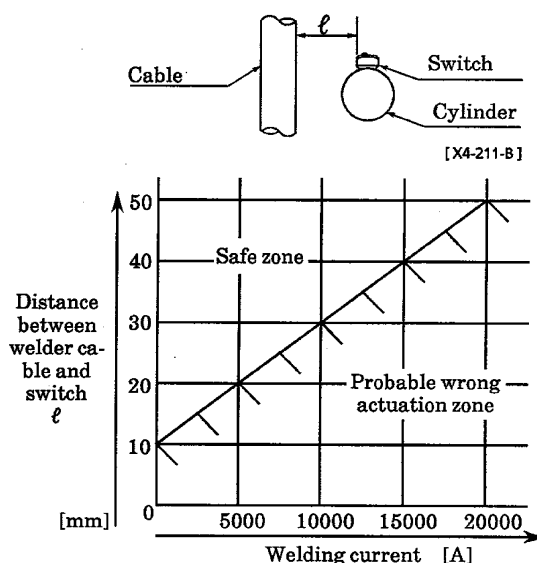
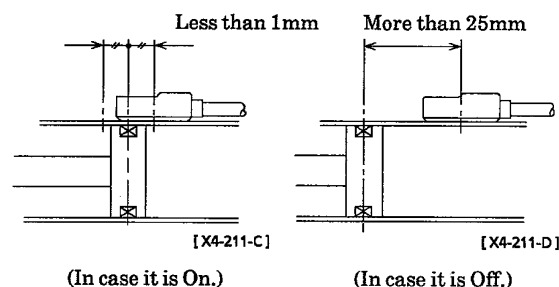

Fig. 19 Spot welding current - erroneous operation distance characteristic
Fig. 20 Relative positioning between Switch and Piston magnet
It is, therefore, advisable to place Cable and Switch apart more distance than shown in the Graph, right. (Fig. 19)
This graph (Fig. 19) is, however, a characteristic with provision of relative positioning of two items as per Illustrated in Fig. 20.
- ① Mount Switch to keep its center apart of that of Magnet within $\pm 1\text{mm}$.
- ② Minimum stroke enabling to sense is 25mm.
- ③ Design the system as per Illustrated (Fig. 20), in case of being unable to avoid effect of ambient magnetic field during the course of piston stroke.